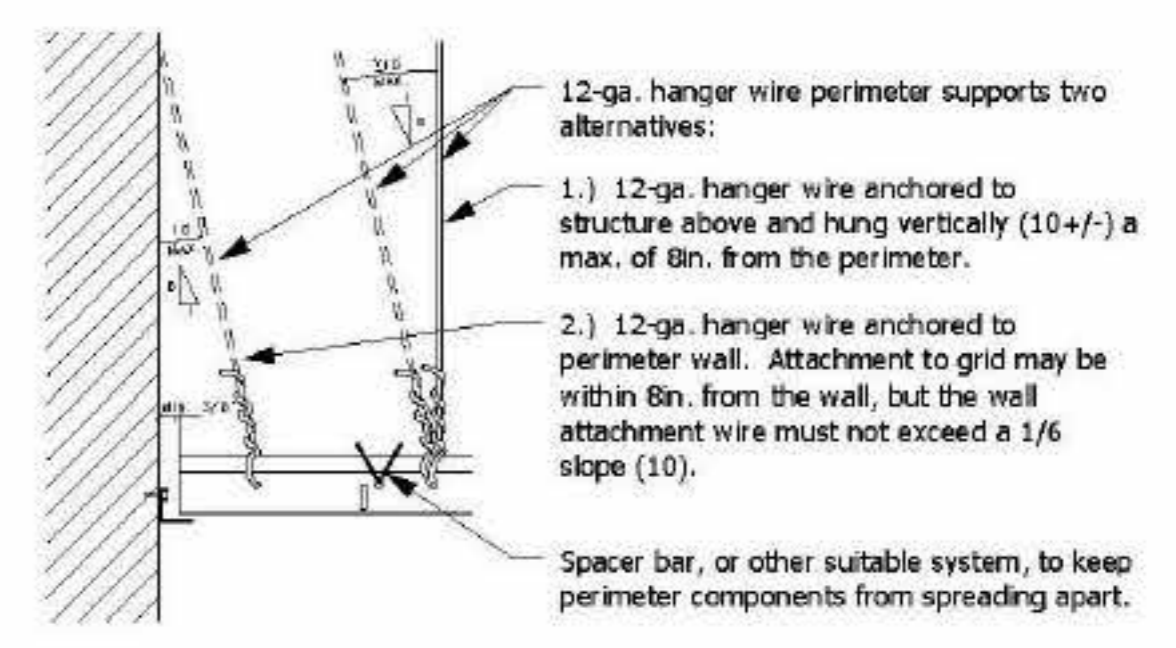
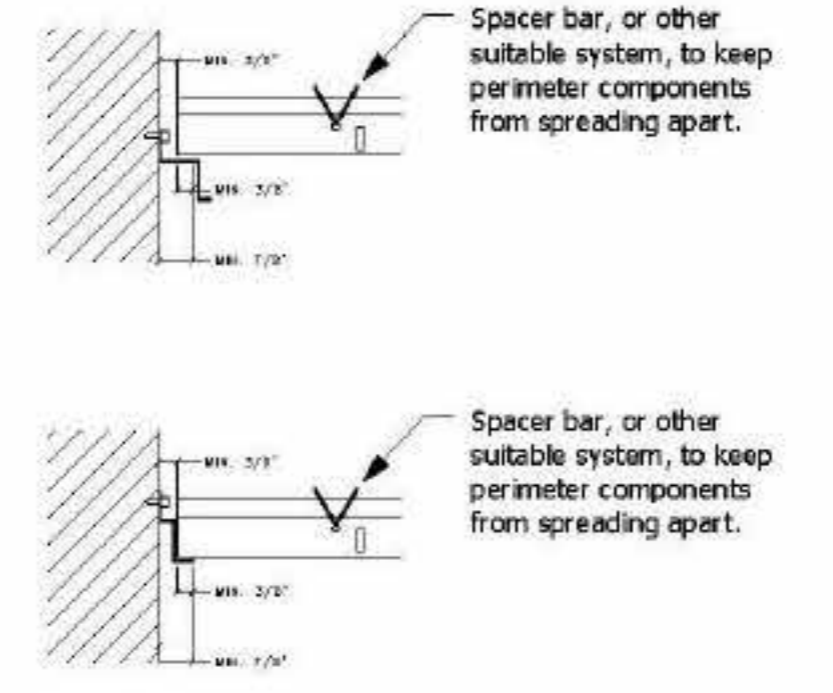
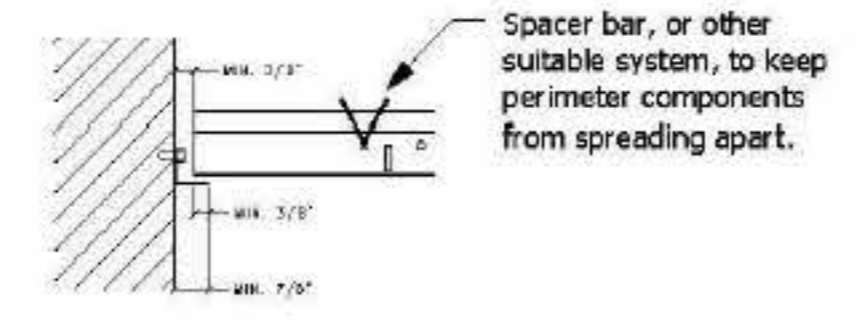

FIGURE 3. Hanger details for all applications
FIGURE 2. Treatment of cross runners and main runners at terminal ends when using reveal (shadow) edge wall closures.
FIGURE 1. Zone 2 treatment of cross runners, main runners, and wall closures at terminal ends.
5. ALL PERIMETER CLOSURE ANGLES OR CHANNELS MUST PROVIDE A SUPPORT LEDGE OF APPROXIMATELY 7/8" OR GREATER. A TERMINAL END OF A GRID MEMBER (OR TILE) MUST REST ON THE LEDGE OR MOLDING WITH AT LEAST 3/8" CLEARANCE FROM AN EDGE OR WALL AS SHOWN IN FIGURE 1. REVEAL (SHADOW) EDGE WALL CLOSURES SHOULD ACCOMMODATE THESE CLEARANCES AS SHOWN IN FIGURE 2. FOR PERIMETER CLOSURE ANGLES THAT PROVIDE A SUPPORT LEDGE OF LESS THAN NOTED ABOVE, THE TERMINAL ENDS OF EACH CROSS RUNNER OR MAIN RUNNER SHALL BE INDEPENDENTLY SUPPORTED WITHIN 8" FROM EACH WALL OR CEILING DISCONTINUITY AS SHOWN IN FIGURE 3. THIS SUPPORT MAY BE A NO. 12 GAUGE HANGER WIRE OR OTHER SUPPORT THAT PREVENTS THE GRID FROM FALLING. THIS WIRE DOES NOT NEED TO BE VERTICAL, BUT SHOULD NOT HAVE A SLOPE GREATER THAN 1 IN 6 OUT-OF-PLUMB. A 3/8IN. GRID END CLEARANCE FROM A WALL SHOULD BE MAINTAINED.